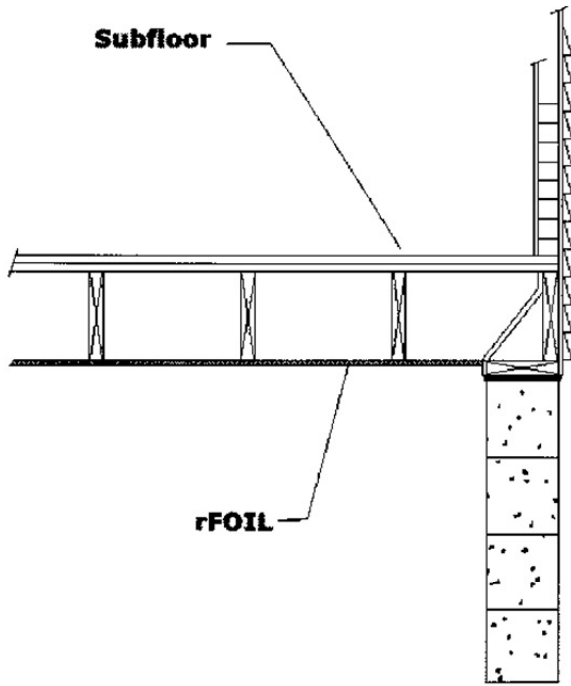

FIGURE 2—CRAWL SPACE APPLICATION
4.1.2.2 Crawl Space Application: The floor assembly consists of minimum of 2-by-8 wood floor joists spaced a maximum of 24 inches (610 mm) on center, with a minimum of one layer of ³/₄-inch-thick (19 mm) plywood on the upper surface, attached in accordance with the applicable code. The length of the insulation sheet is placed parallel to the floor joists. Inside surface-to-surface thermal resistance of the assembly is noted in Table 1 of this report. See Figure 2 of this report for an illustration of the assembly.